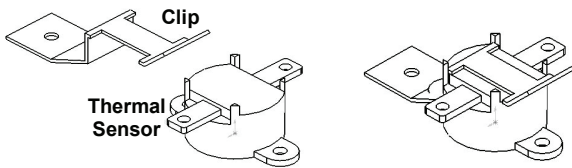

Figure 53 - Thermal Sensor Installation
12. The thermal sensor clip is located beneath the firebox floor near the center. Slide the thermal sensor into the clip until it snaps in place. Make sure the terminals on the thermal sensor are perpendicular to the clip. *Figure 53*